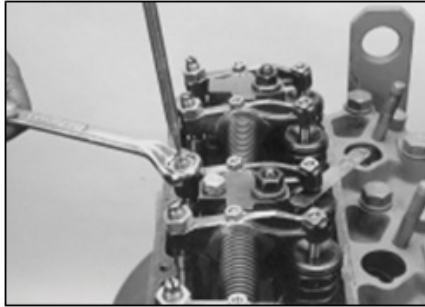

Figure 29
- Turn the pulley clockwise until the next cylinder in firing order comes to TDC compression stroke. Continue with the process until all the cylinders are covered and all lifters are set (Figure 29).